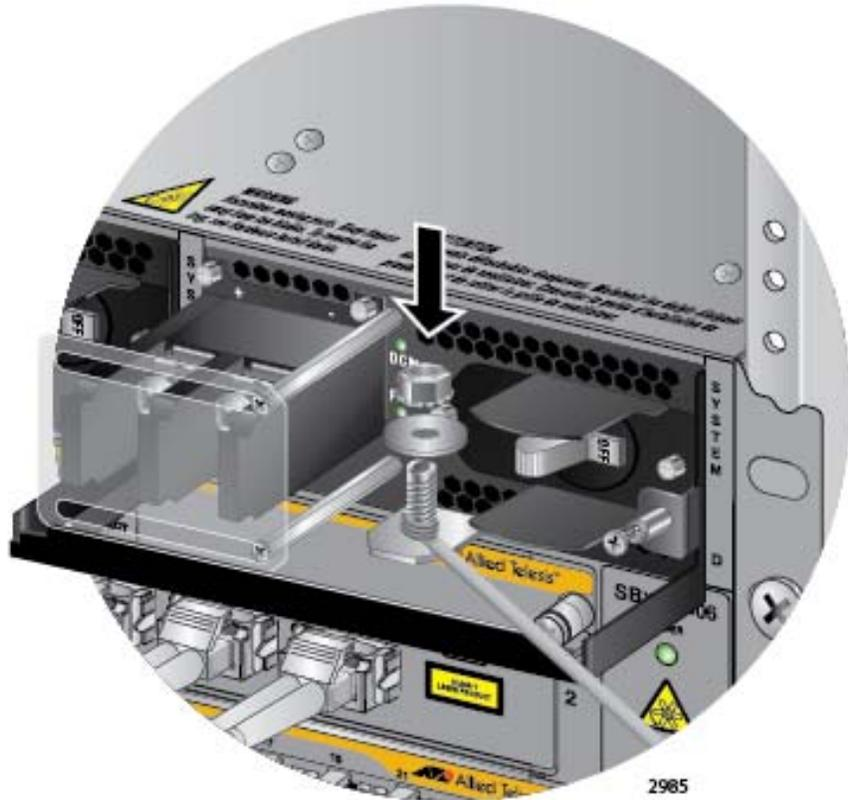

Figure 111. Securing the Bare Grounding Wire to the Grounding Post
4. Secure the wire with the nut and washer removed in step 2, and an 8 mm wrench, as shown in Figure 111.